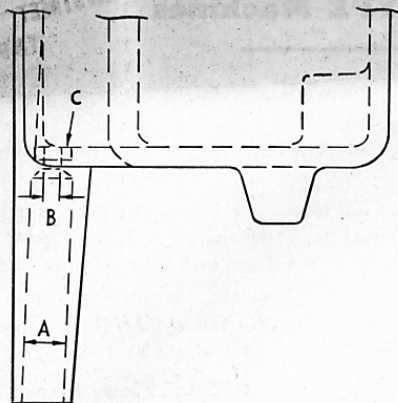

Figure 1.
2. Clean out hole "A" with $\frac{19}{32}$ " drill. (Figure 1)